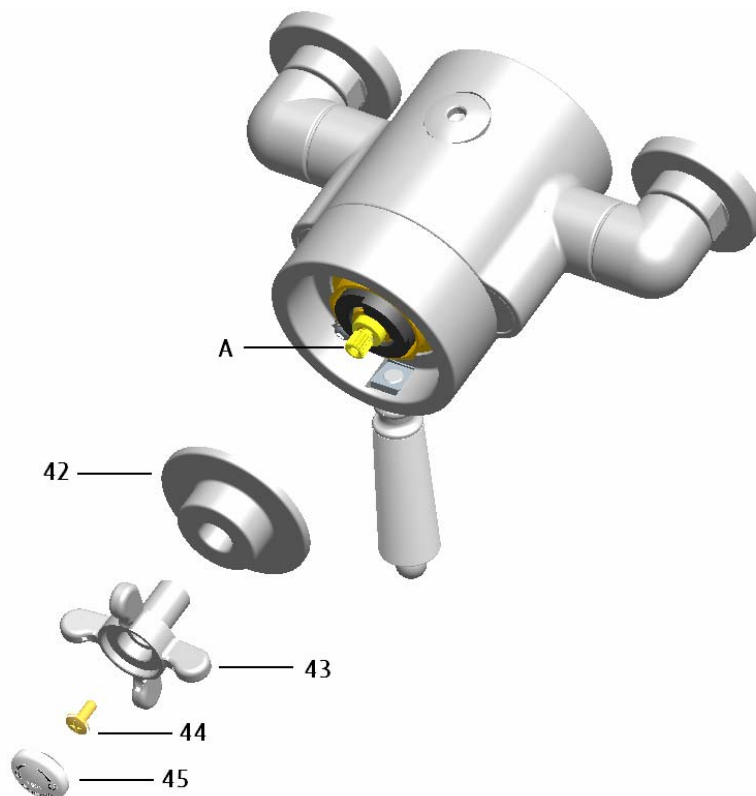

Fig. 8
8.8 Resetting the Maximum Temperature (See Fig. 8)